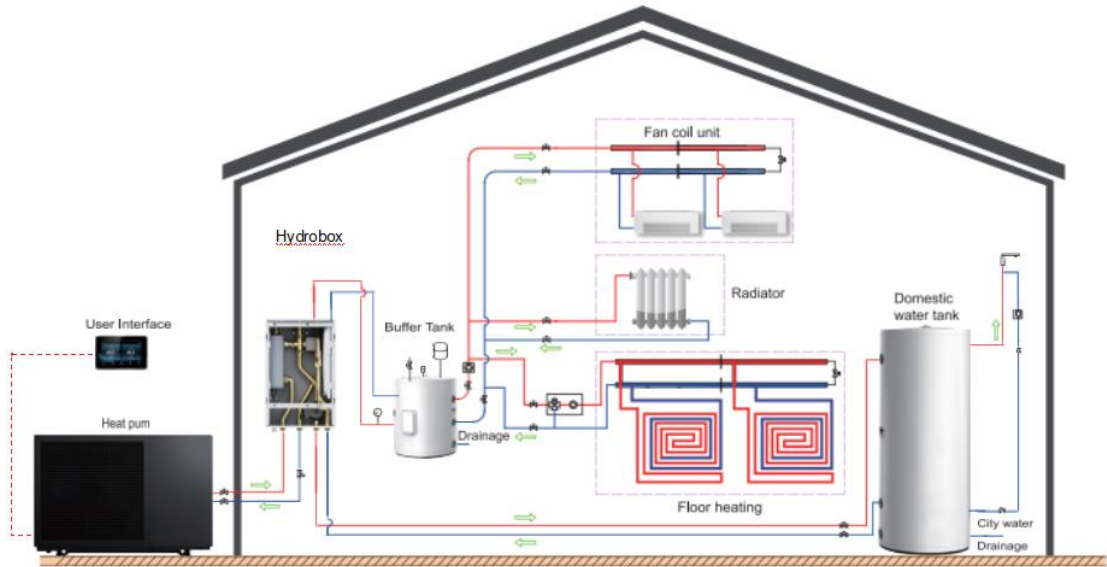
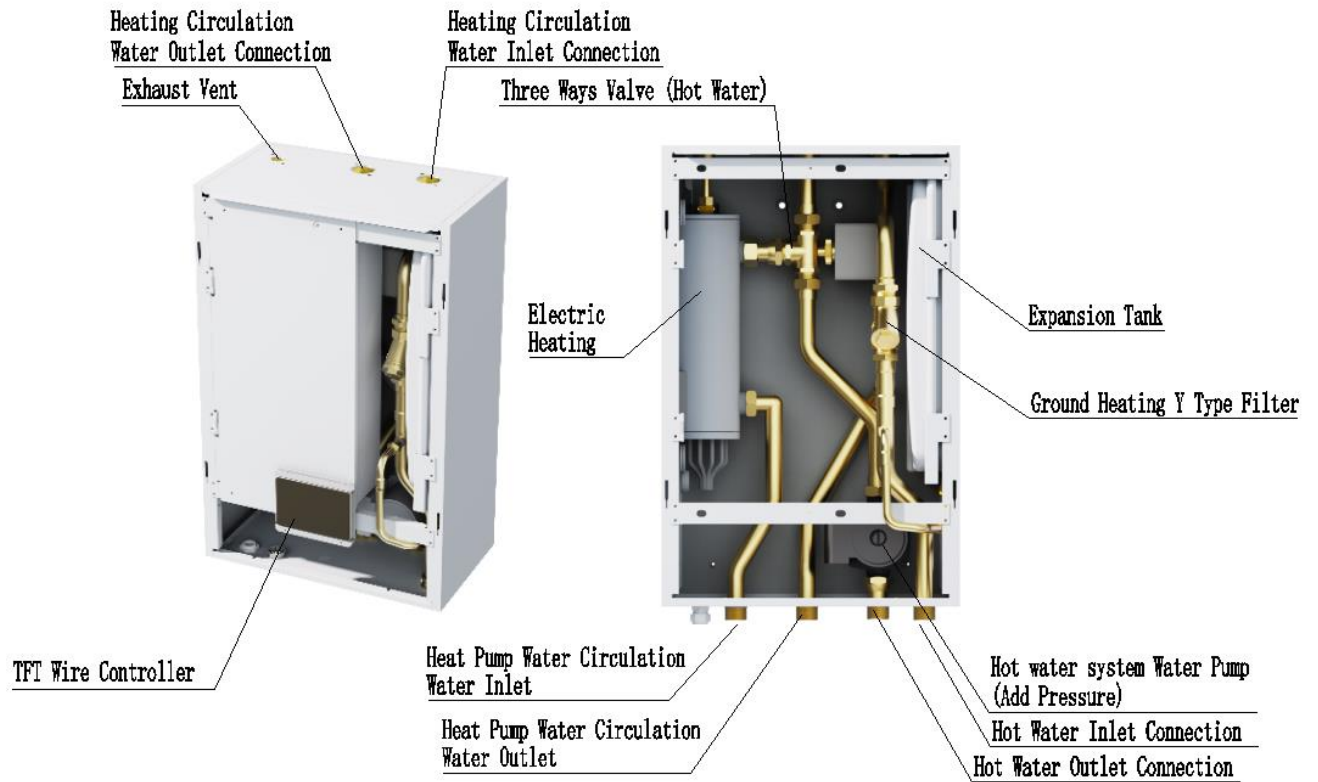

Figure1
Figure 2
1. According to running principle diagram (See Figure 1) and exploded view (See Figure 2), connect the pipelines of each system step by step.